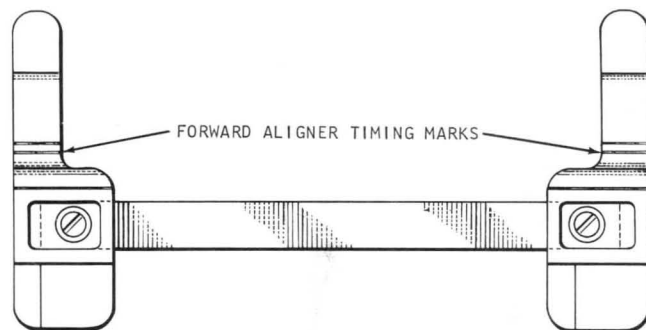

Figure 4-7. Gage 608183 Timing Mark
4. Continue turning the machine and check to see that a card finishes forward aligning to within $.005''$ of the "forward aligner timing marks" on the gage at 351° (Figure 4-7). This determines that the forward aligner is timed correctly.
1. Trip clutch at 300° and continue turning machine to 351° . Adjust forward aligners so that the trailing edge of the card is against each aligning surface of the forward aligners and leading edge of the card is within .005" of the forward aligner timing marks on the gage (Figure 4-7) at 351° . To adjust the forward aligners: